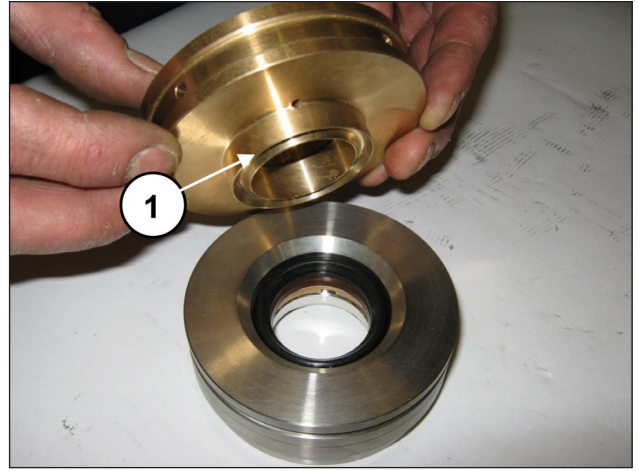
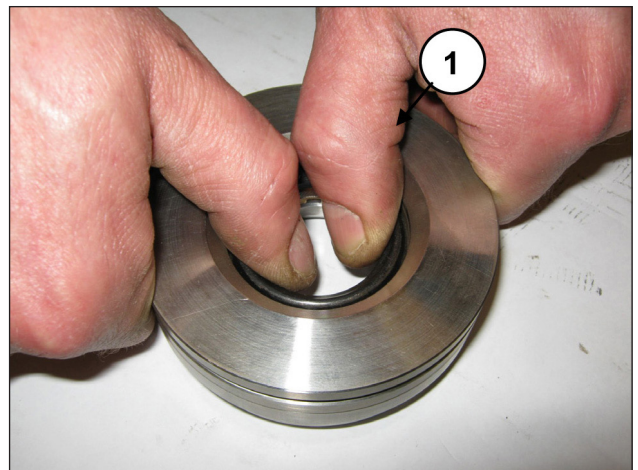

Fig. 174
Fig. 175
Separate the seal support from the liner (pos. ①, Fig. 174) to access the pressure seals (pos. ①, Fig. 175).